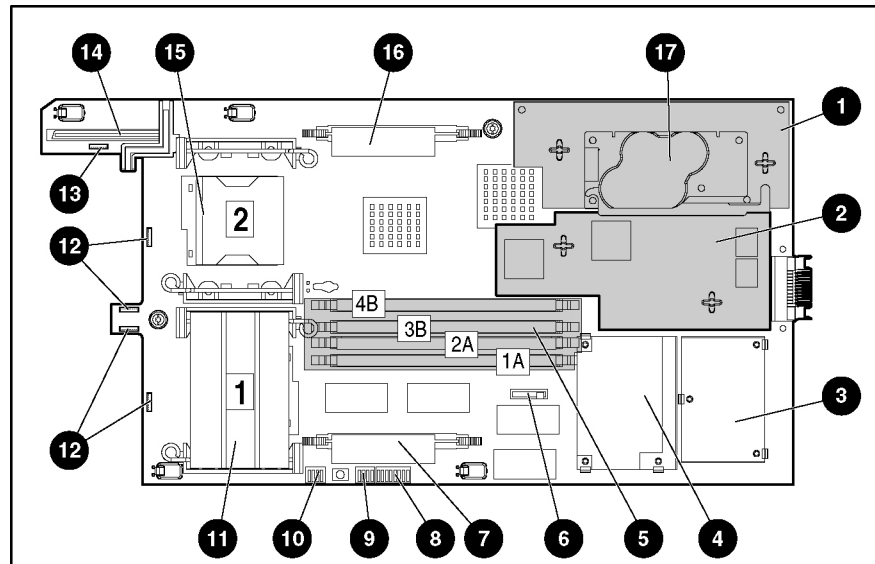

Figure 4-3: ProLiant BL20p G2 system board components and connectors
11. Loosen the system board thumbscrews. Note that the thumbscrew between the VHDM connector and the DC filter module will not remain attached. If necessary, refer to Figure 4-3 for system board component locations.
14. Lift the edge of the system board nearest the system switches. The edge of the system board nearest the Smart Array 5i Plus Controller module connectors tilts down into the chassis, and the edge of the system board nearest the system switches tilts up out of the chassis. If necessary, refer to Figure 4-3 for the component locations.
Use Figure 4-3 and Table 4-2 to identify ProLiant BL20p G2 system board components and connectors.